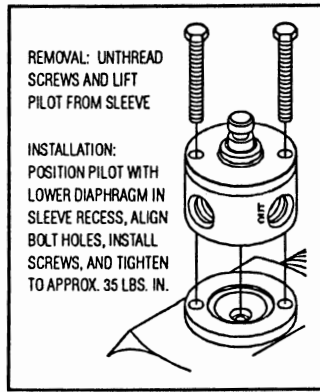

Figure 32. Pilot Assembly removal/installation
- As shown in Figure 32, unthread Item 7 Cap Screws and Remove Pilot Assembly from the Top of Item 24 Sleeve.